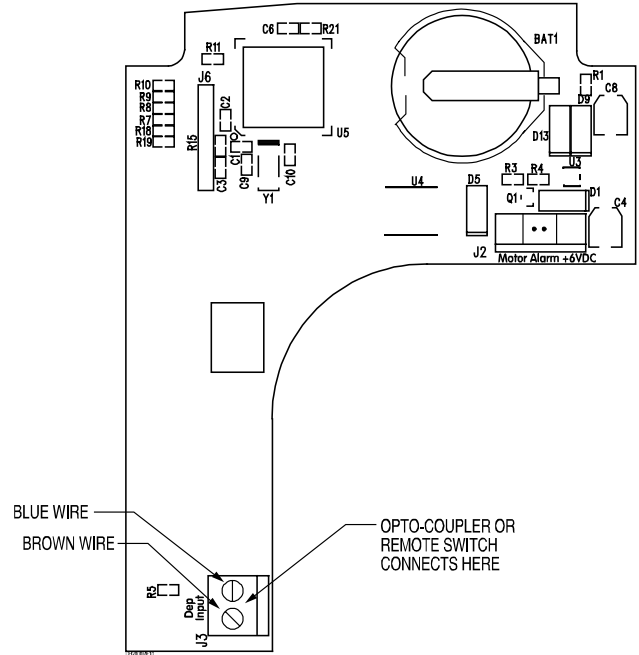

Figure 8c. Connecting Remote Switch or Opto-Coupler
When connecting the wire leads from the remote switch the orientation does not matter. Connect the wire leads to the terminal block marked "Dep Input" (J3) on the main circuit board (see Figure 8c).
2. Connect the leads of the white wire (blue and brown) as indicated in the drawing. **The orientation is important.** The blue lead connects to the position closest to the coin cell battery (top) and the brown lead goes to the position closest to J3 (bottom). If these leads are reversed, the opto-coupler will not work and can be damaged. See Figure 8c.